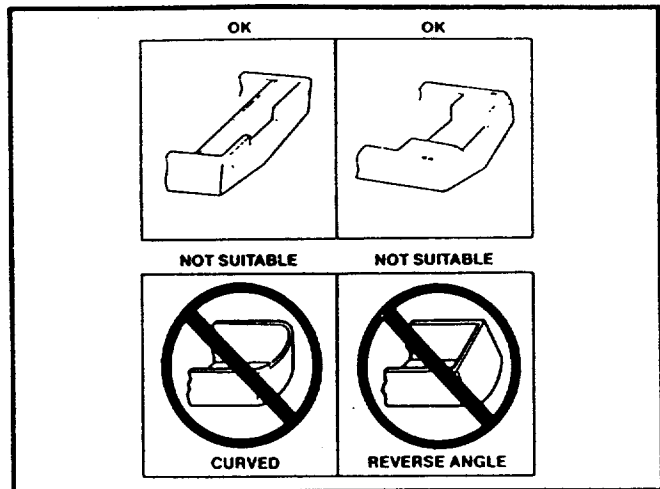

FIGURE 1
- Make sure the transom of your boat is designed for mounting an outboard motor. (Figure 1) The keel should be tapered from a point about 30" (76.2cm) ahead of the transom so that it is no more than 1/2" (1.27cm) thick at the transom.